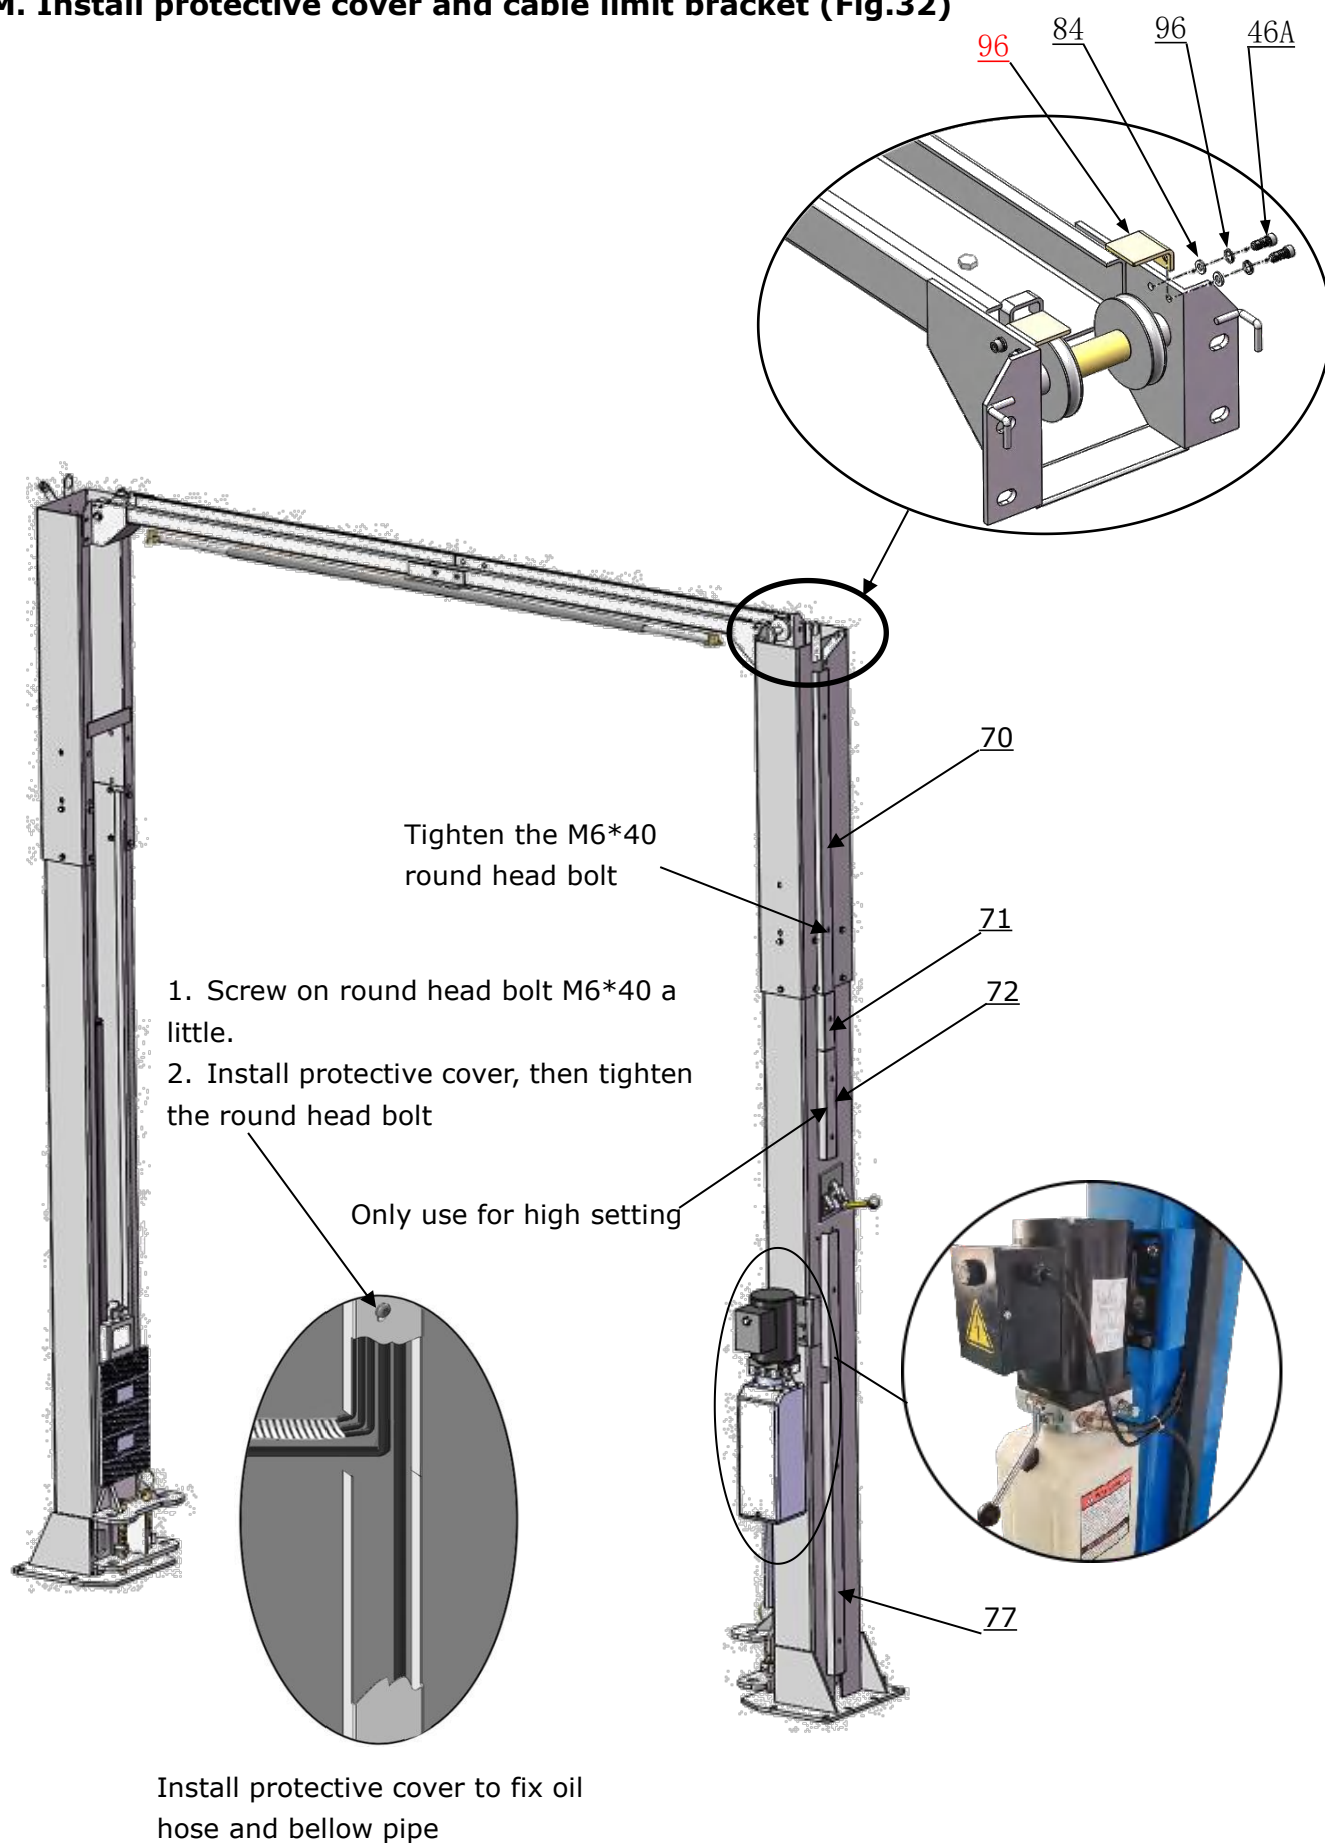

Fig. 32
M. Install protective cover and cable limit bracket (Fig.32)